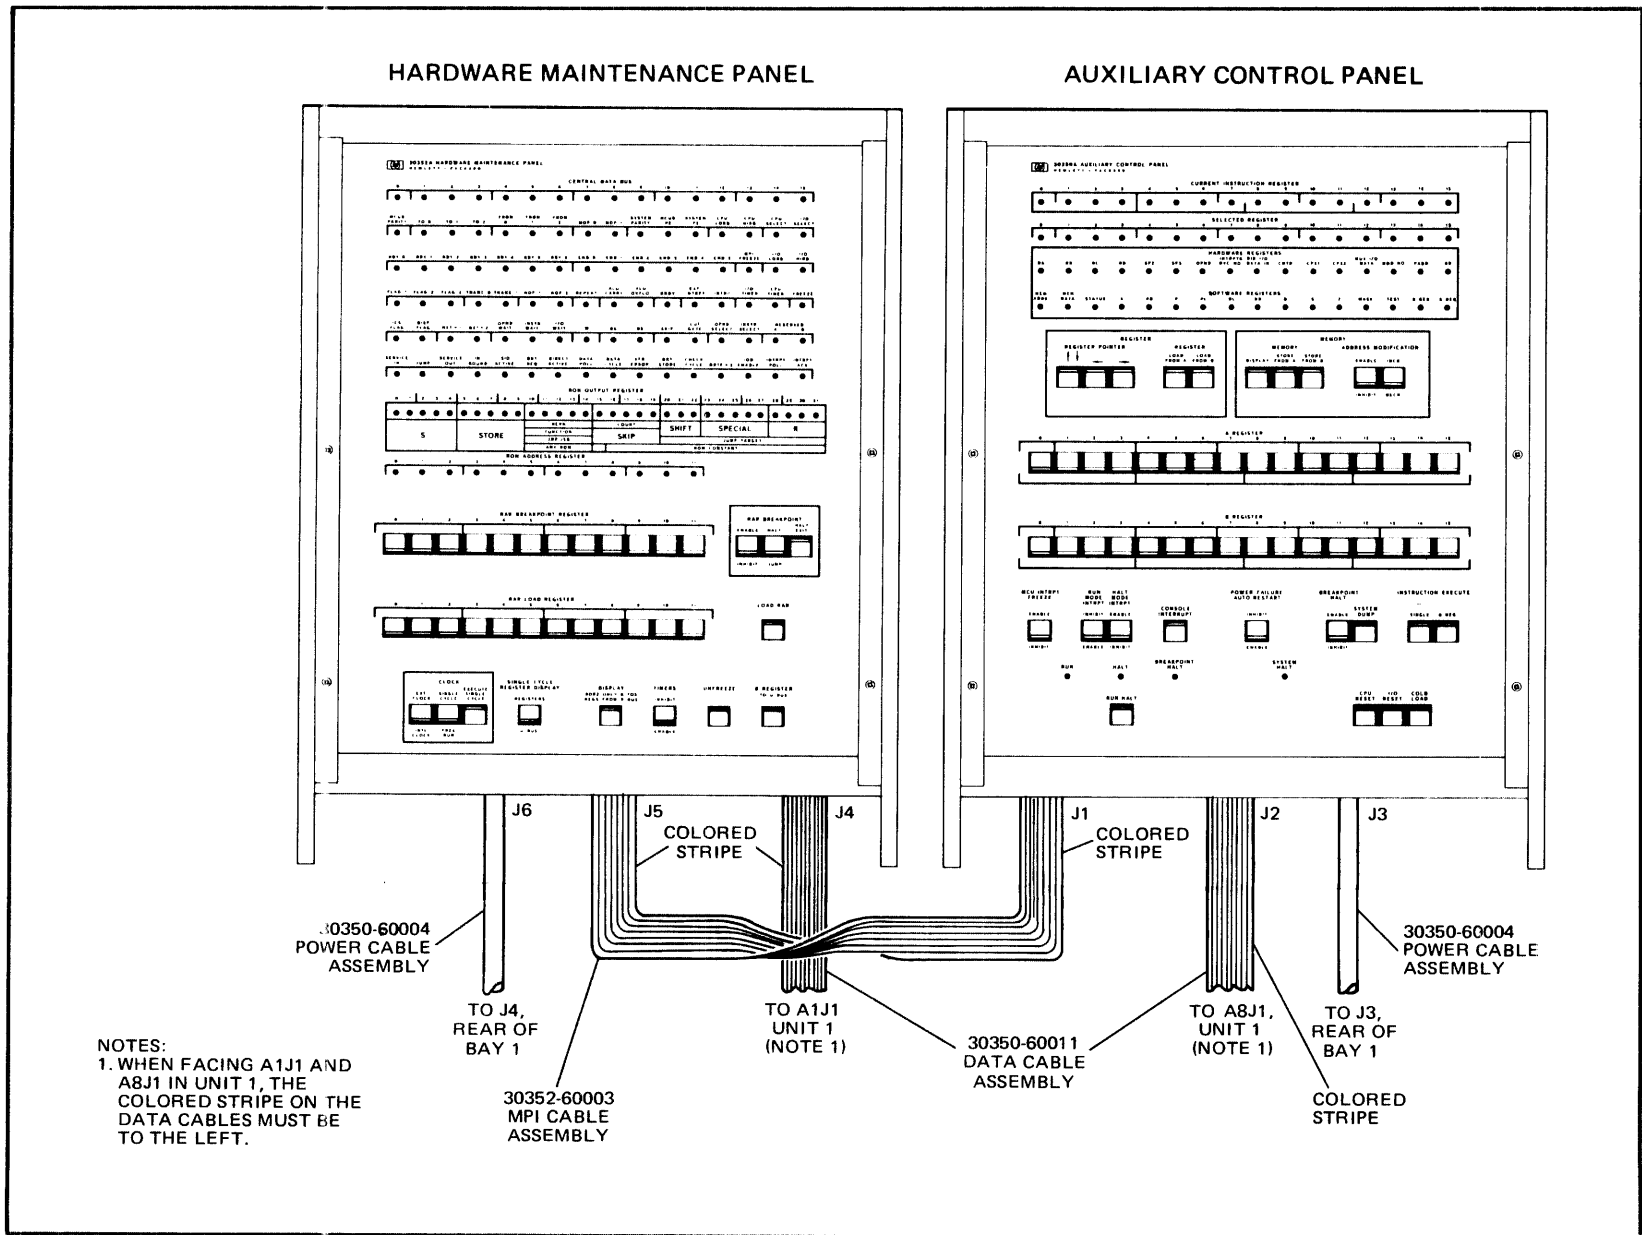

Figure 4-1. HP 30350A Auxiliary Control Panel and 30352A Hardware Maintenance Panel Cabling
The HP 30350A Auxiliary Control Panel (ACP) and HP 30352A Hardware Maintenance Panel (HMP) are permanently mounted on an HP 30355A System Display Desk. The ACP provides the means for manually controlling the HP 3000 Computer System and is also used as a software troubleshooting aid. The ACP and HMP together are used for troubleshooting the CPU/IOP portion of the computer. When not in use, the ACP and HMP slide down into the desk. The panels are illustrated in figures 4-1, 4-2, and 4-3.
- h. Using the following procedure, connect the data cable assembly (part number 30350-60011) as indicated in figure 4-1.
- (1) Pass the cables, within their protective sleeve, through the cable slot at the rear of bay 1. This slot is at the bottom of the bay.
- (2) Run the cables up the bay, behind the PCA cages, and pass them over unit 1 to the front of the bay.
- (3) Connect the cable from HMP J4 to A1J1. (A1 is the top PCA in unit 1, J1 is the leftmost edge connector on the PCA.) When facing A1J1, the colored stripe on the cable must be to the left. The two cables in the sleeve can be distinguished from each other by the seam on the sleeve. The cable next to the seam beneath the desk is also the cable next to the seam at the other end of the cables.
- (4) Connect the cable from ACP J2 to A8J1. (A8 is the eighth PCA from the top in unit 1.) The colored stripe on the cable must be to the left.
- k. Connect the two power cable assemblies (part number 30350-60004) as indicated in figure 4-1.